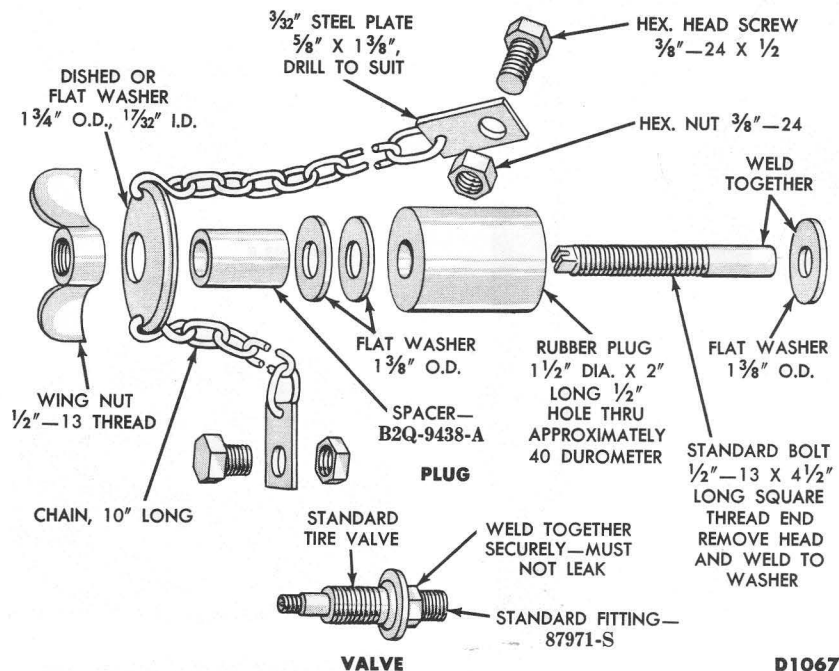

FIG. 6—Converter Leak Checking Tool
1. Tighten the low band adjusting screw with the special torque wrench (Fig. 6, Part 6-2) until the wrench is felt and heard to click. This tool is a pre-set torque wrench which clicks and overruns when torque on the screw reaches 10 ft-lbs.
Figure 6 shows how a leak checking tool can be made from standard parts.